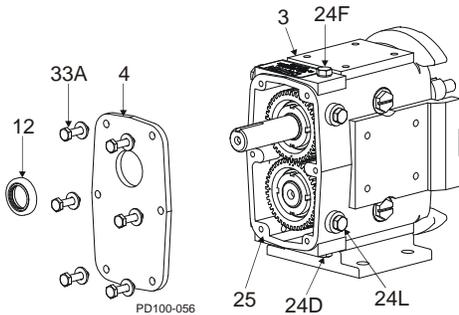
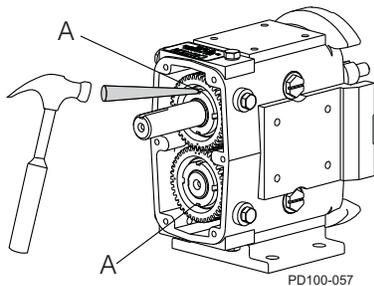

Figure 68 - Remove Gear Case Cover
Figure 69 - Straighten Lock Tab
1. Remove the oil drain plug (Figure 68, item 24D); drain the oil.
2. Remove the cap screws from the gear case (Figure 68, item 33A).
3. Pull the cover (item 4) off the shaft extension. If the cover sticks, use a soft hammer to loosen it.
4. Remove the silicone sealant (item 25) from the gear case and cover.
5. Using an arbor press, remove the oil seal (item 12) from the cover. Discard the used oil seal.
6. Straighten the tab on the lock washers (Figure 69, item A).